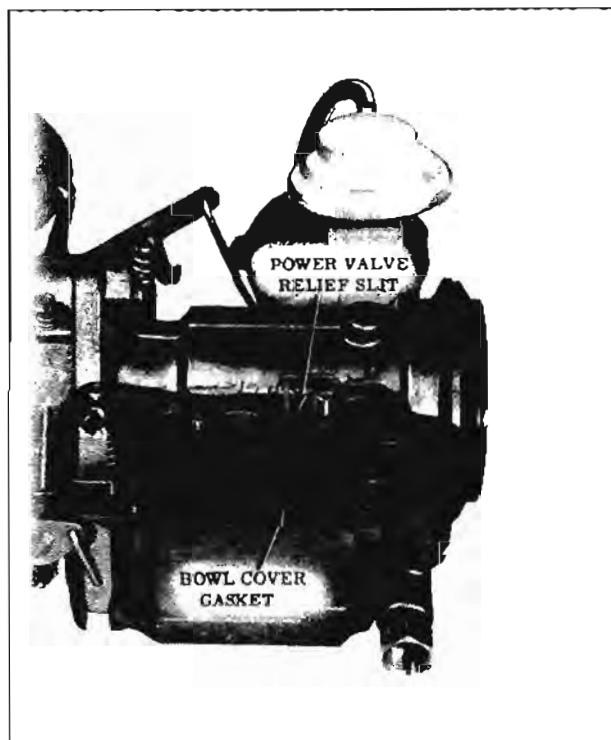

Fig. 9-116 Float Cover Bowl Gasket
3. Remove bowl slotted cover gasket. (Fig. 9-116)